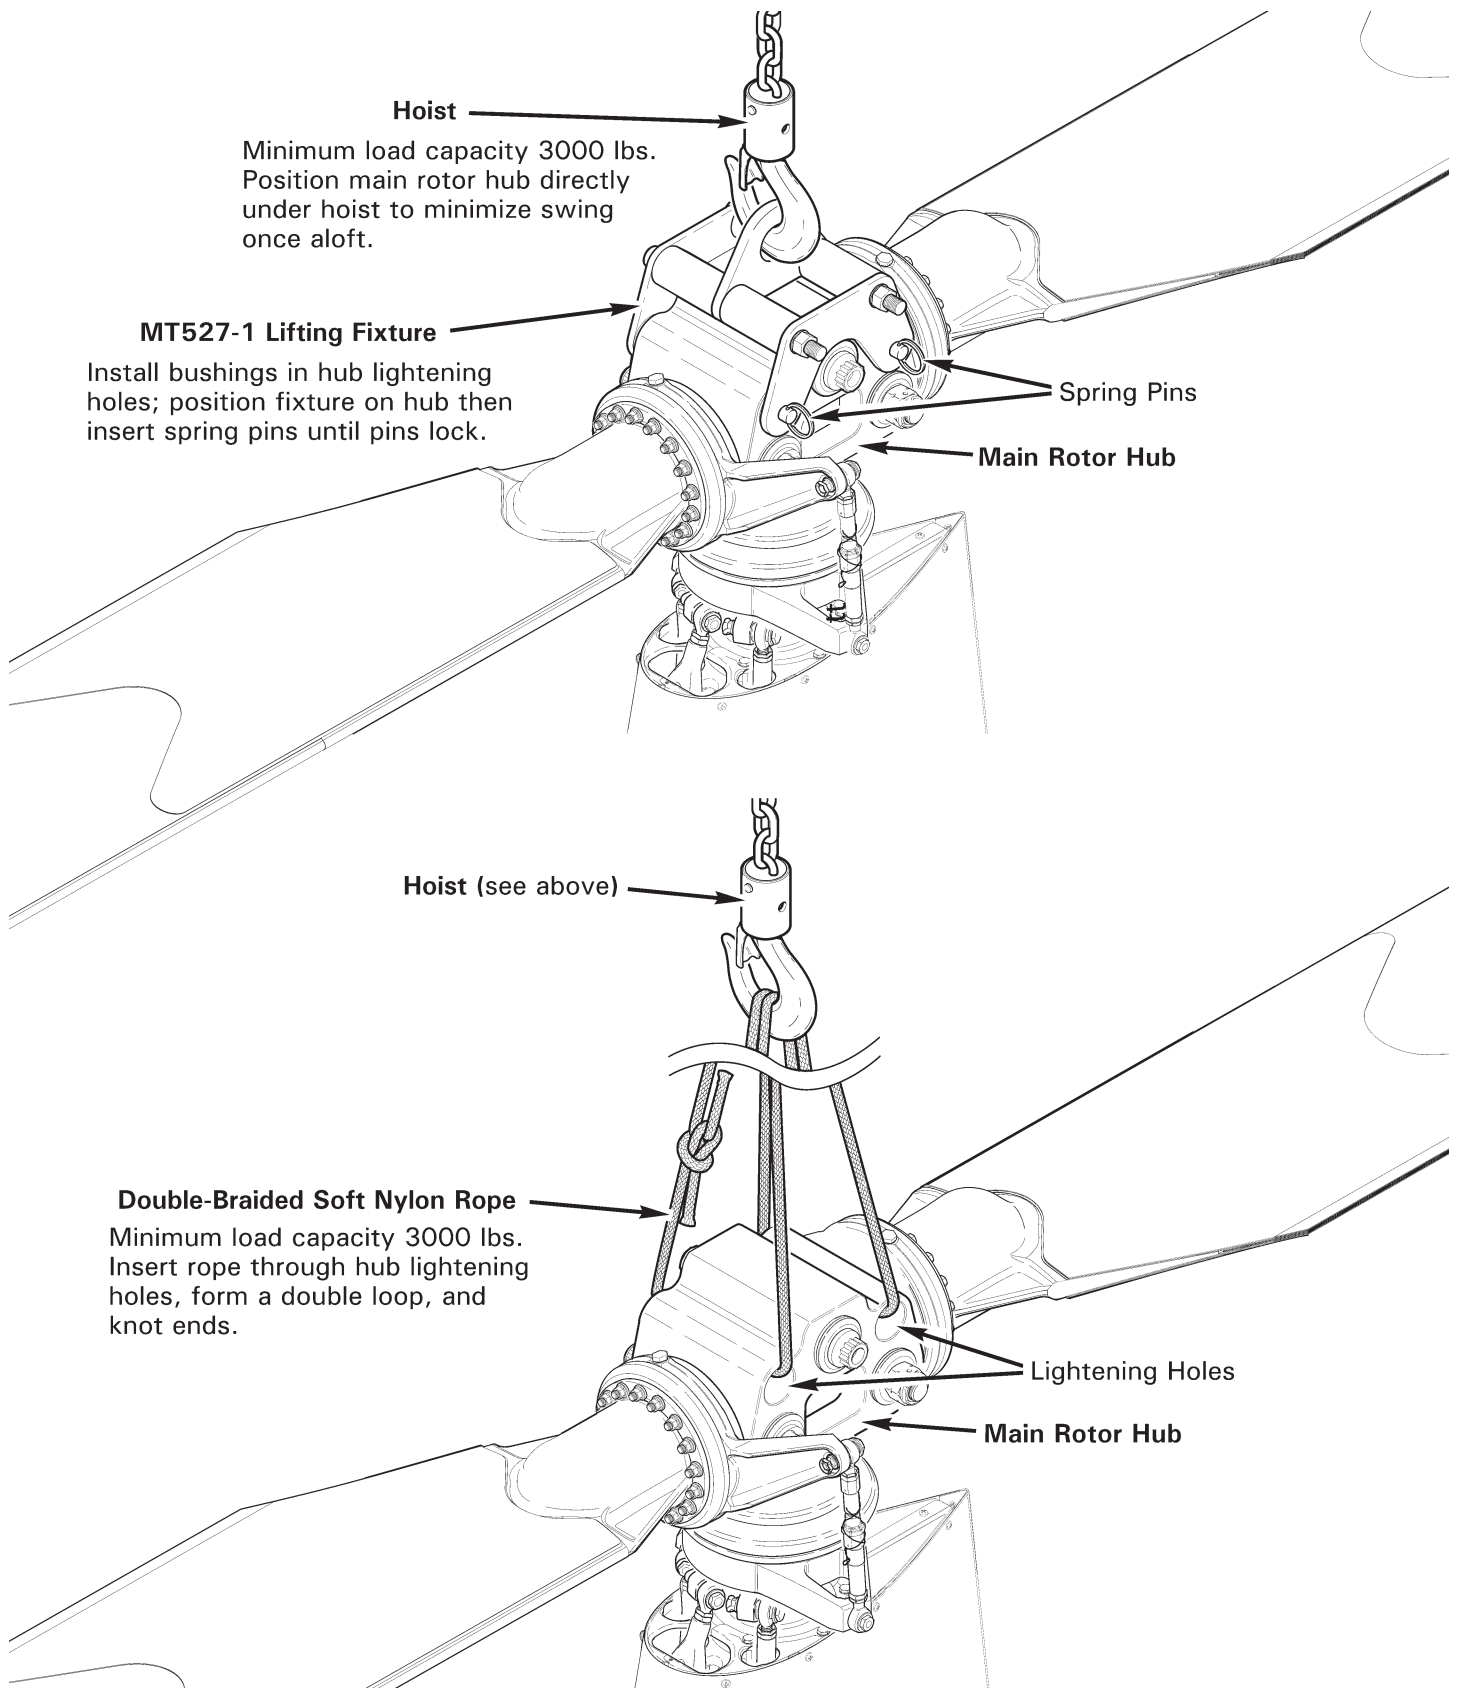

**FIGURE 7-1 JACKING**
1. Refer to Figure 7-1. Place one (appropriate capacity) jack under each (landing gear) aft strut assembly jack lug/tab and under the ground handling ball. Install jacking point adapters as required.
1. Refer to Figure 7-1. Slowly and simultaneously (one person per jack recommended) lower each jack ram, maintaining helicopter stability. Lower aircraft to ground.